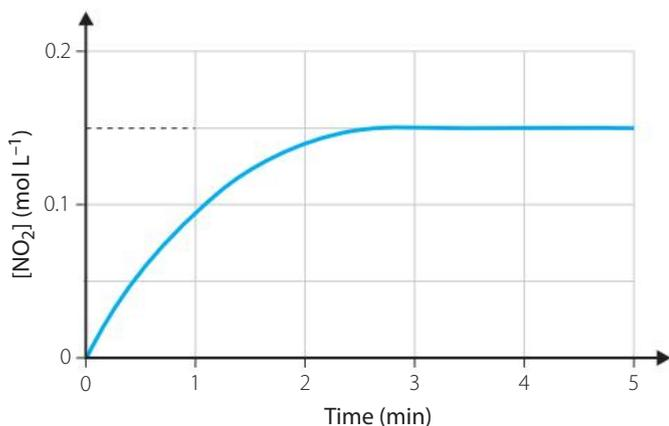

FIGURE 3.5 Quantitative equilibria
- 13** At room temperature, gaseous dinitrogen pentoxide decomposes to nitrogen dioxide and oxygen. In a particular experiment, 0.10 mol of dinitrogen pentoxide was placed in a 1.00 L flask and the concentration of nitrogen dioxide was measured as a function of time. The results are represented in Figure 3.5.